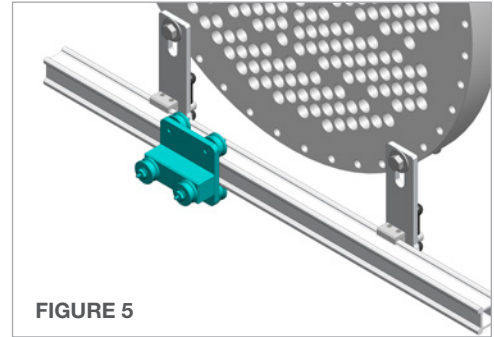

FIGURE 5
- Slide the **Idler Carriage** onto the Lower Non-Slotted Rail. **(Figure 5)**